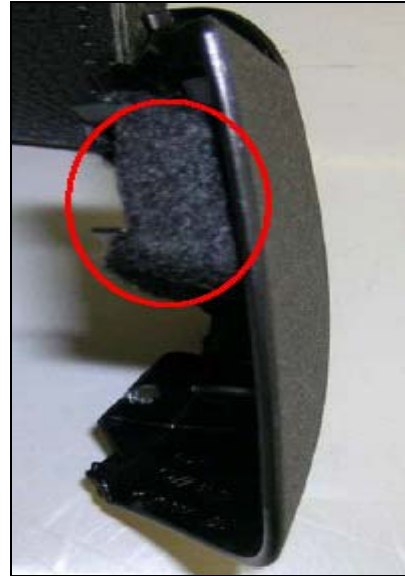

Figure 13
2. Line side of trim cover rib (Figure 13) with felt (A001 983 51 10).